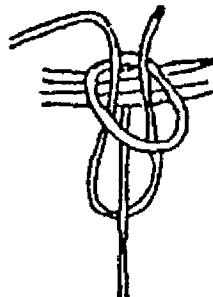

Fig. 3-28-6
- f. Pass it behind the hanging portion of the rope from right to left, and then through the loop going upward. (Fig. 3-28-6)